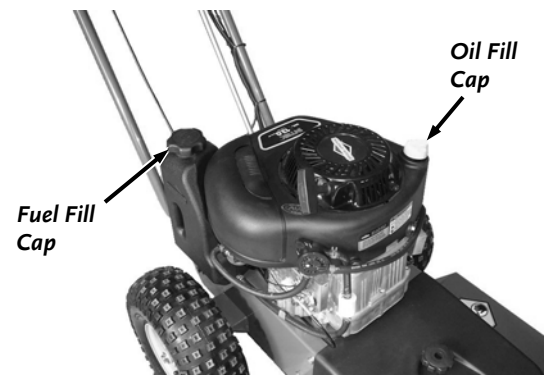

Figure 2
1. Place the machine on a level surface, remove the Oil Fill/Dipstick (**Figure 2**) and clean the end of it with a rag.
1. Check the oil level every time you use the machine. See Figure 2 on page 9.